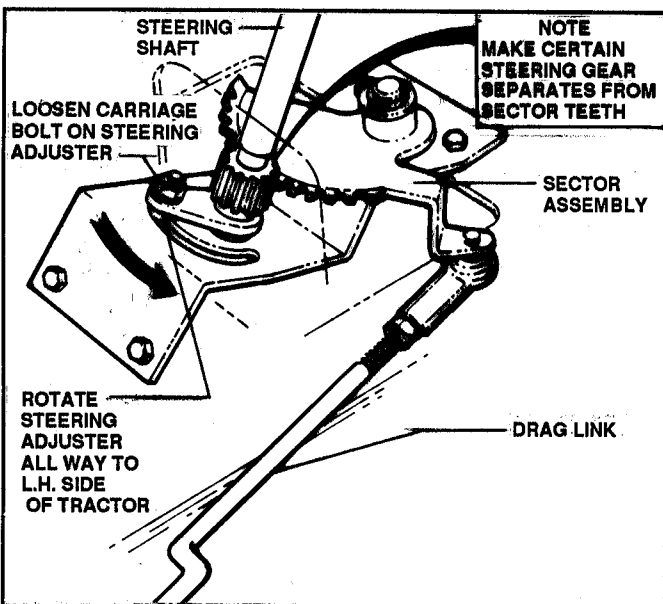

FIGURE 5.8
- (1) Remove mower deck and place tractor on a work platform high enough to allow access to work underneath.
- (2) Remove tractor hood.
- (3) Loosen carriage bolt on steering adjuster and rotate adjuster to the L.H. side of tractor until steering shaft gear separates from sector teeth. See Figure 5.8.